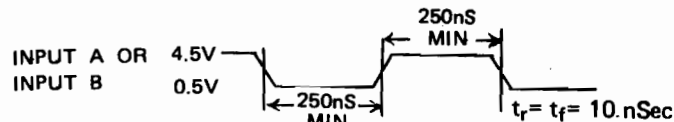

Figure 7. Waveform for Guaranteed Minimum F_B MAX
2. FIG. 7 For period and Time Interval measurements